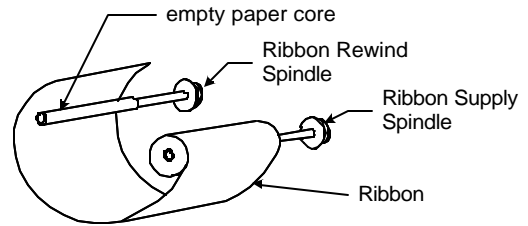

Fig. 2.2.3
5. Install a new ribbon onto the supply spindle, and install a empty paper core onto the rewind spindle (see figure 2.2.3)